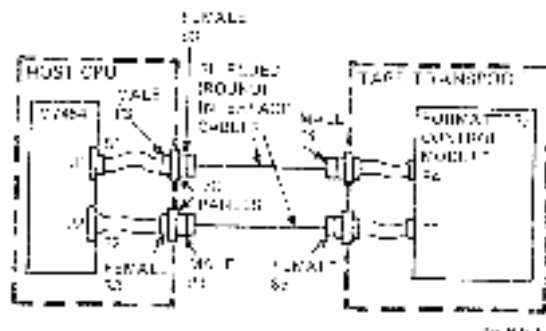

Figure 2-5 Plug-to-Plug I/O Cable Connections
- Plug two internal ribbon cables *from beyond connectors* into the J1 and J2 edge connectors on M7454 module (Figure 2-2). Plug cable with male external connector into J1 on the board, and cable with female external connector into J2. To correctly connect all PDI cables plug, follow Figure 2-5.